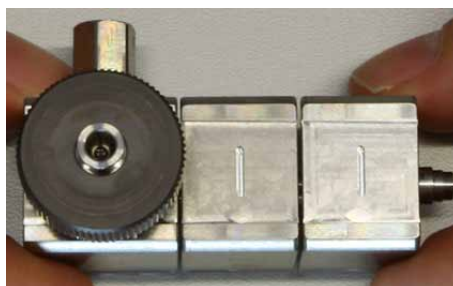

Fig. 62: Stack of displacement chambers (notches pointing upward), valve cartridges, and purge unit
Verify that the valve cartridges are installed in the direction of flow. A flow direction sign on the check valve cartridges shows the correct orientation (→ Fig. 61). The displacement chambers should be positioned such that the small notches point upward and the bores for the guide bushings are on the same side as the pump outlet on the purge unit (→ Fig. 62).
6. Form a stack out of the purge unit, displacement chambers and valve cartridges (→ Fig. 62). The bores for the pistons and piston guide bushings should be on the same side as the pump outlet.